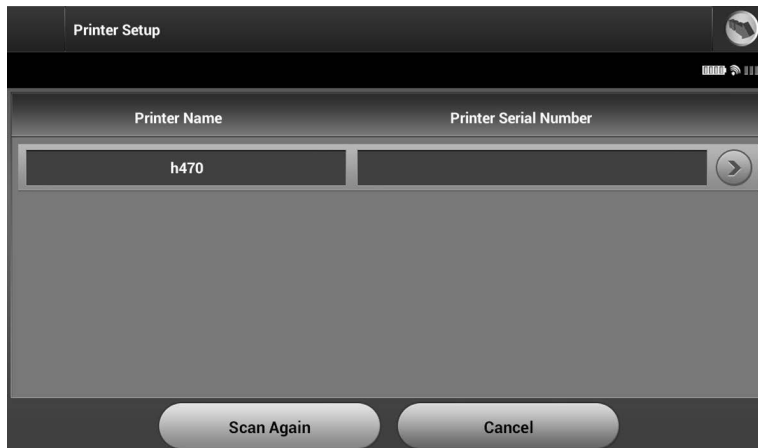

Figure 10: *Printer Setup screen*
2. Select Printer Setup on the Programmer Settings screen. A previously configured printer becomes the default printer and will be displayed at this time. If a default printer has not already been selected and configured, the Printer Setup screen (Figure 10) will be empty and the programmer will scan the area to locate wireless printers. A Scan Progress Bar will appear informing the user that the programmer is currently scanning for printers.
3. Select the printer of choice from among those found during the scan (Figure 10). If none were found, a window will appear stating that there are no printers. Select the Try Again button or the Cancel button to return to the Programmer Settings screen.